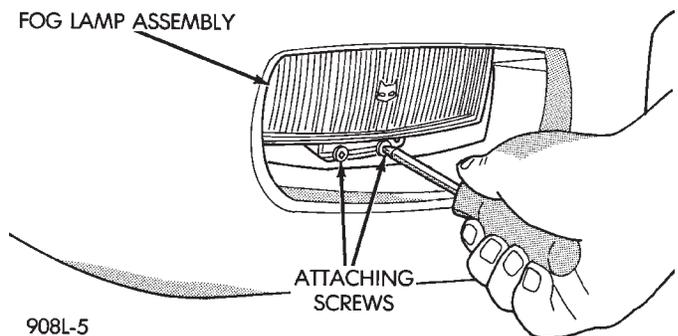

Fig. 8 Fog Lamp
- (1) Raise vehicle.
- (2) Unplug the fog lamp pigtail wiring harness from the main lighting harness.
- (3) Remove the fog lamp attaching screws from below the lamp assembly (Fig. 8). Pull the lamp assembly through the opening in the front bumper fascia.